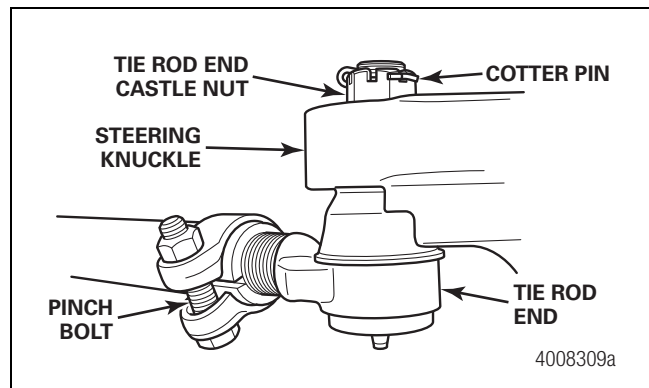

Figure 4.1
1. Remove the cotter pins from the tie rod end castle nuts. Figure 4.1.